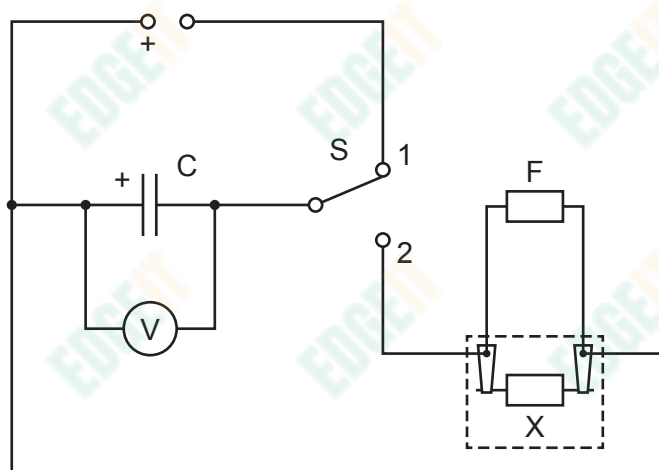

Fig. 1.2
- Connect the voltmeter in parallel with component C, as shown in Fig. 1.2.
- Connect the resistor labelled F in parallel with the component holder, as shown in Fig. 1.2.
- Connect one of the labelled resistors into the component holder as resistor X, as shown in Fig. 1.2. Record the resistance R of resistor X.